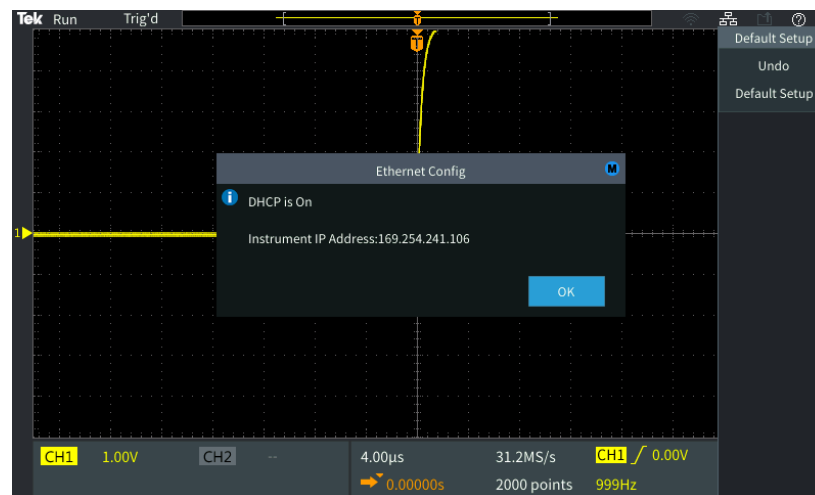

Figure 21. After connecting the cable, you should see the Ethernet icon (upper right) and the scope's IP address
3. Verify that the Ethernet connection icon is on in the upper right corner of the display (Figure 21).